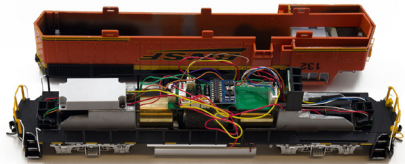

Figure 1: Remove loco shell
1. Carefully remove the locomotive shell. **(Figure 1)** Note the orientation to the frame for correct re-installation. Arrange internal wires to expose the jumper board in the locomotive.